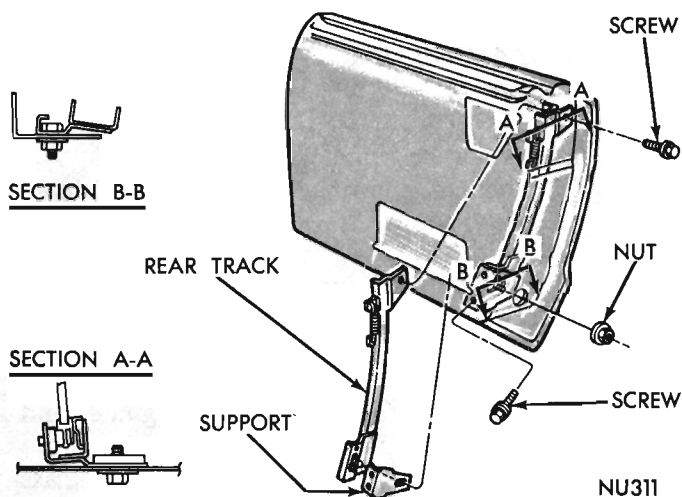

Fig. 6 - Glass Rear Track
(1) Remove the door glass and front track assembly.
(2) Remove screw attaching track upper bracket to door lock face and nut attaching track lower bracket to lower support (Fig. 6).
(3) Remove track assembly through large access hole in door panel.